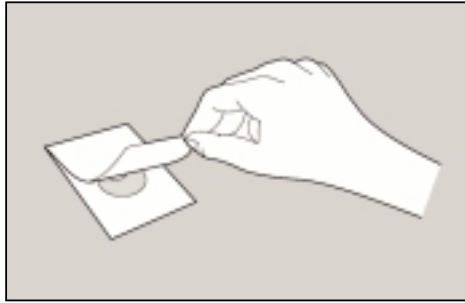

Figure 4
4. **Roll** the top film onto the bottom film. Do not drop the top film down (fig. 4).